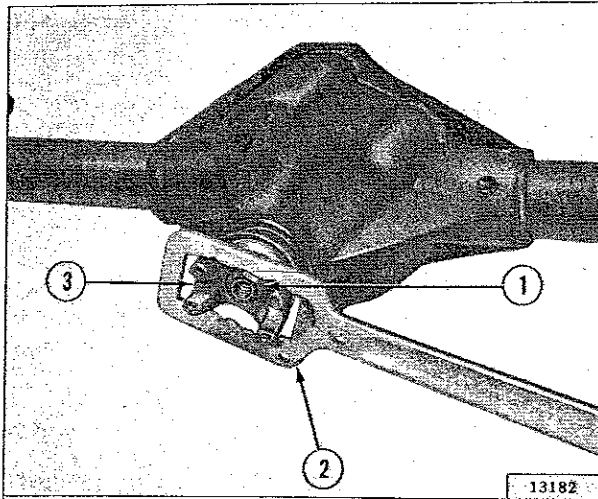
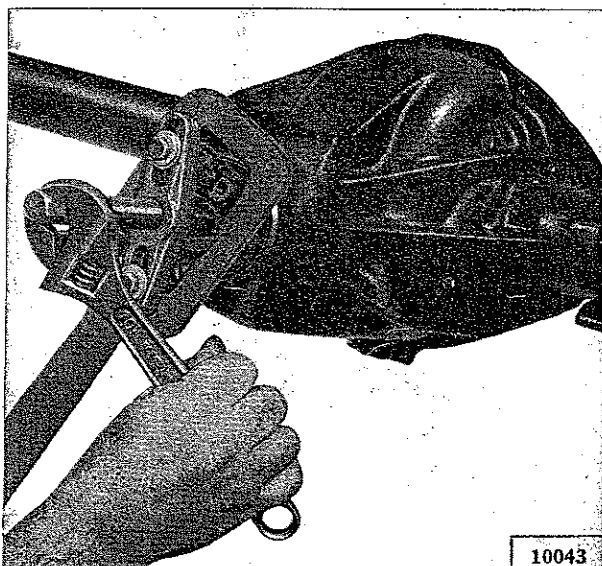

FIG. N-17—END YOKE HOLDING WRENCH
FIG. N-18—END YOKE PULLER
k. With Tool C-3281 to hold the shaft as shown in Fig. N-17, remove the nut. With Puller W-172 remove the yoke as shown in Fig. N-18.